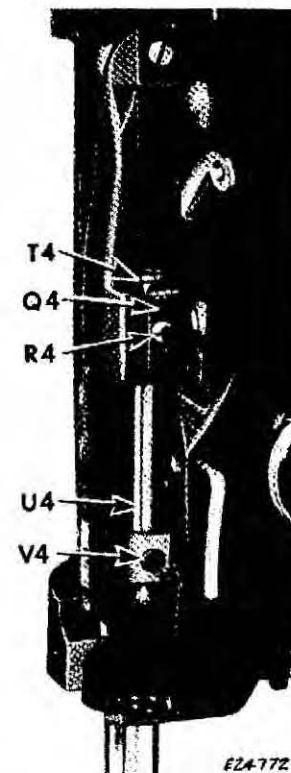

Fig. 66. Upper Timing Mark on Needle Bar
To adjust the height of the needle bar, loosen set screw **V4**, **Fig. 66** and raise or lower needle bar **U4**, as required. Then securely tighten screw **V4**.
Check the setting of the needle bar height indicator **Q4**, **Fig. 66** and reset, if necessary, as instructed on **page 42**.
5. Loosen set screw **V4**, Fig. 66.
9. Then loosen screw **R4**, Fig. 66 to reset needle bar height indicator. Move indicator **Q4** up or down until it corresponds with upper timing mark **T4**. Securely tighten screw **R4**.